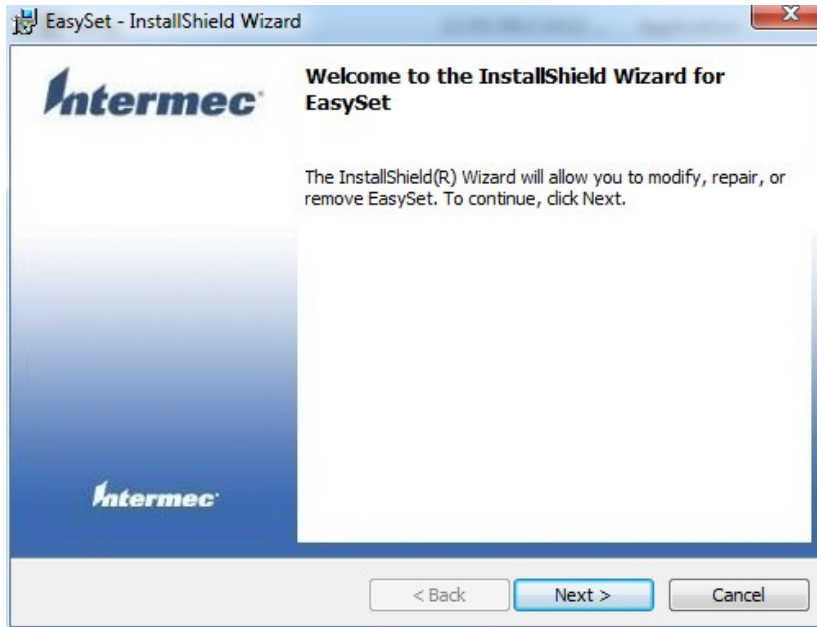

Figure 3-12: EasySet InstallShield Wizard
Step 3: Double click the setup file in the folder. The Easyset InstallShield Wizard screen appears (**Figure 3-12**). Follow the step-by-step instruction of the installation wizard to install the EasySet barcode scanner program